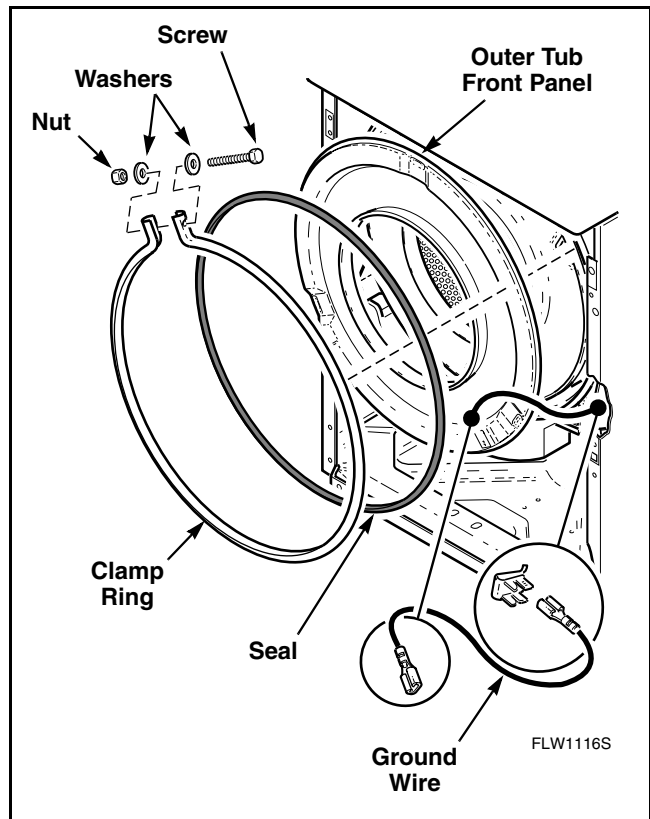

Figure 37
- Disconnect ground wire from outer tub front panel. Refer to *Figure 37*.
- Remove nut, washers and screw holding clamp ring to outer tub front panel. Refer to *Figure 37*.
- n. Disconnect ground wire from outer tub front panel. Refer to *Figure 37*.
- o. Remove nut, washers and screw holding clamp ring to outer tub front panel. Refer to *Figure 37*.